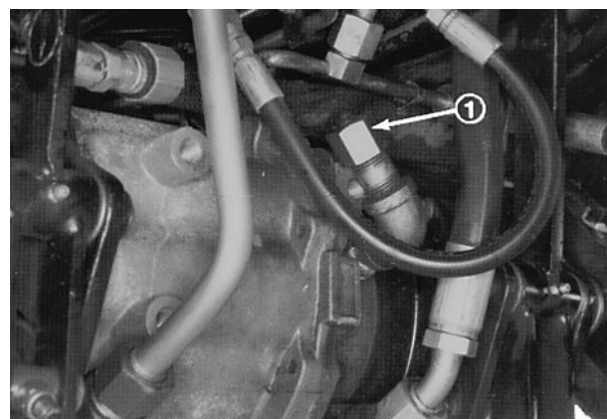

Figure 7
3. Unscrew the dipstick cap (Fig. 7) from the filler neck and wipe it with a clean rag. Screw the dipstick cap finger tight onto the filler neck. Unscrew the dipstick and check the level of lubricant. If the level is not within 1/2 inch from the groove in the dipstick, add enough to raise the level to the groove mark. **DO NOT OVERFILL** by more than 1.2 cm (1/2 in) above the groove.